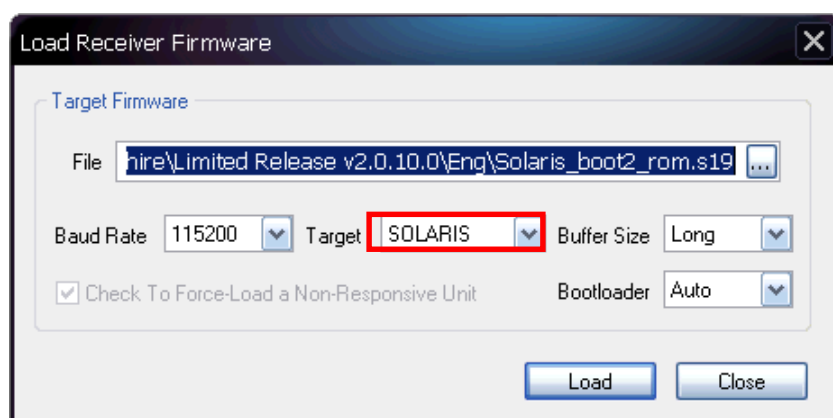

Figure 72: Settings for GNSS Firmware
Example NAV File: SPv1,0,0,4.s19 (see Figure 72).
- Select SOLARIS to upload GNSS [firmware (see Figure 72).